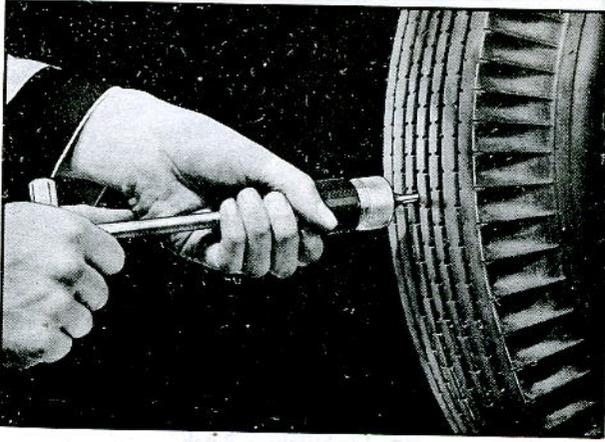

Fig. 8—Filling Hole with Sealing Gun
2. Using sealing gun, fill puncture from outside of tire, see Figure 8.